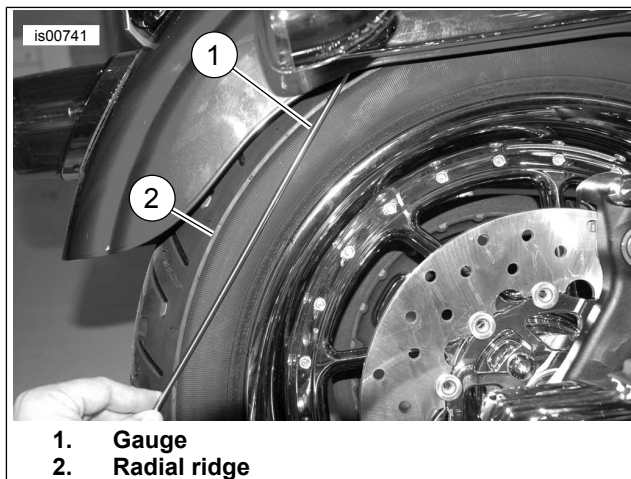

Figure 5. Gauge Clearance
4. See Figure 5. Lay gauge across the tire's radial ridge (2) and check that the gauge (1) can pass through the fender without touching the turn signal mounting screw or the rear fender bracket. Repeat for opposite side of motorcycle.